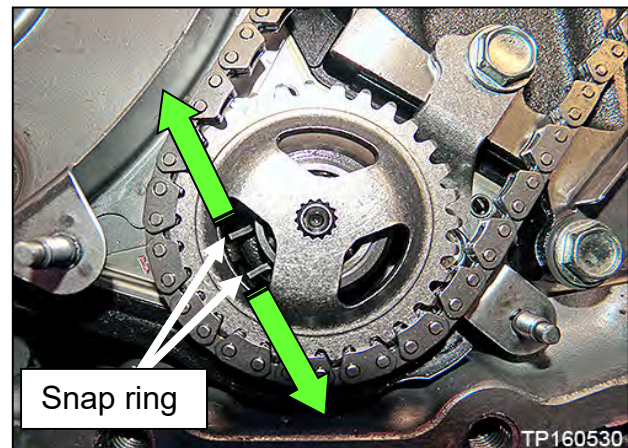

Figure 41
- Spread the snap ring to remove the sprocket (Figure 41).